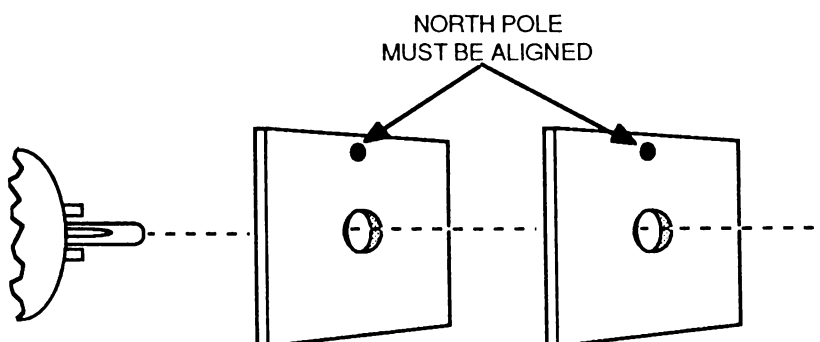

**FIGURE 10**
4. If the desired raster cannot be obtained, add a second magnet to the same pin. Both magnets must be aligned as in Figure 10, then rotated simultaneously.